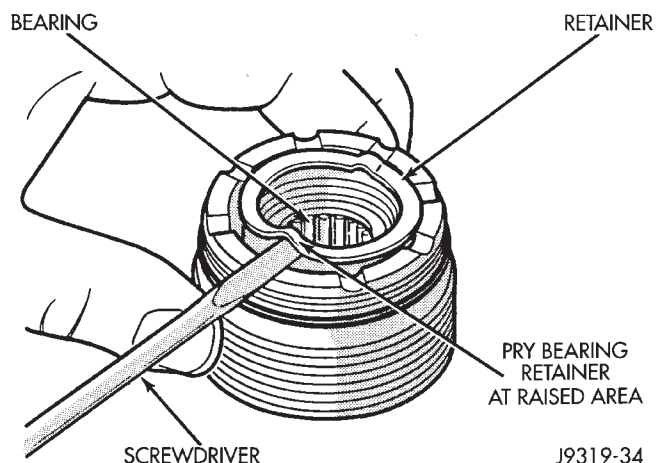

Fig. 19 Remove Retainer
- (3) Remove thrust washer bearing retainer from adjuster plug with screwdriver (Fig. 19).